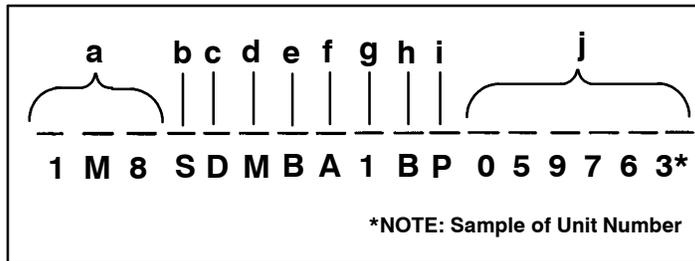

FIGURE 2
The nameplate in the engine cooling compartment and the certification plate at the rear of the stepwell each contain the seventeen-digit Vehicle Identification Number (VIN). (Figure 2, 3). Coach—specific information is indicated by the digits or letters in the vehicle identification number. The alphabetical references shown correspond to each V.I.N. character or character set. Each is explained in the following list.
- j. The twelfth through seventeenth digits define the actual unit number of the coach. (*Sample of Unit No. shown in Figure 2)